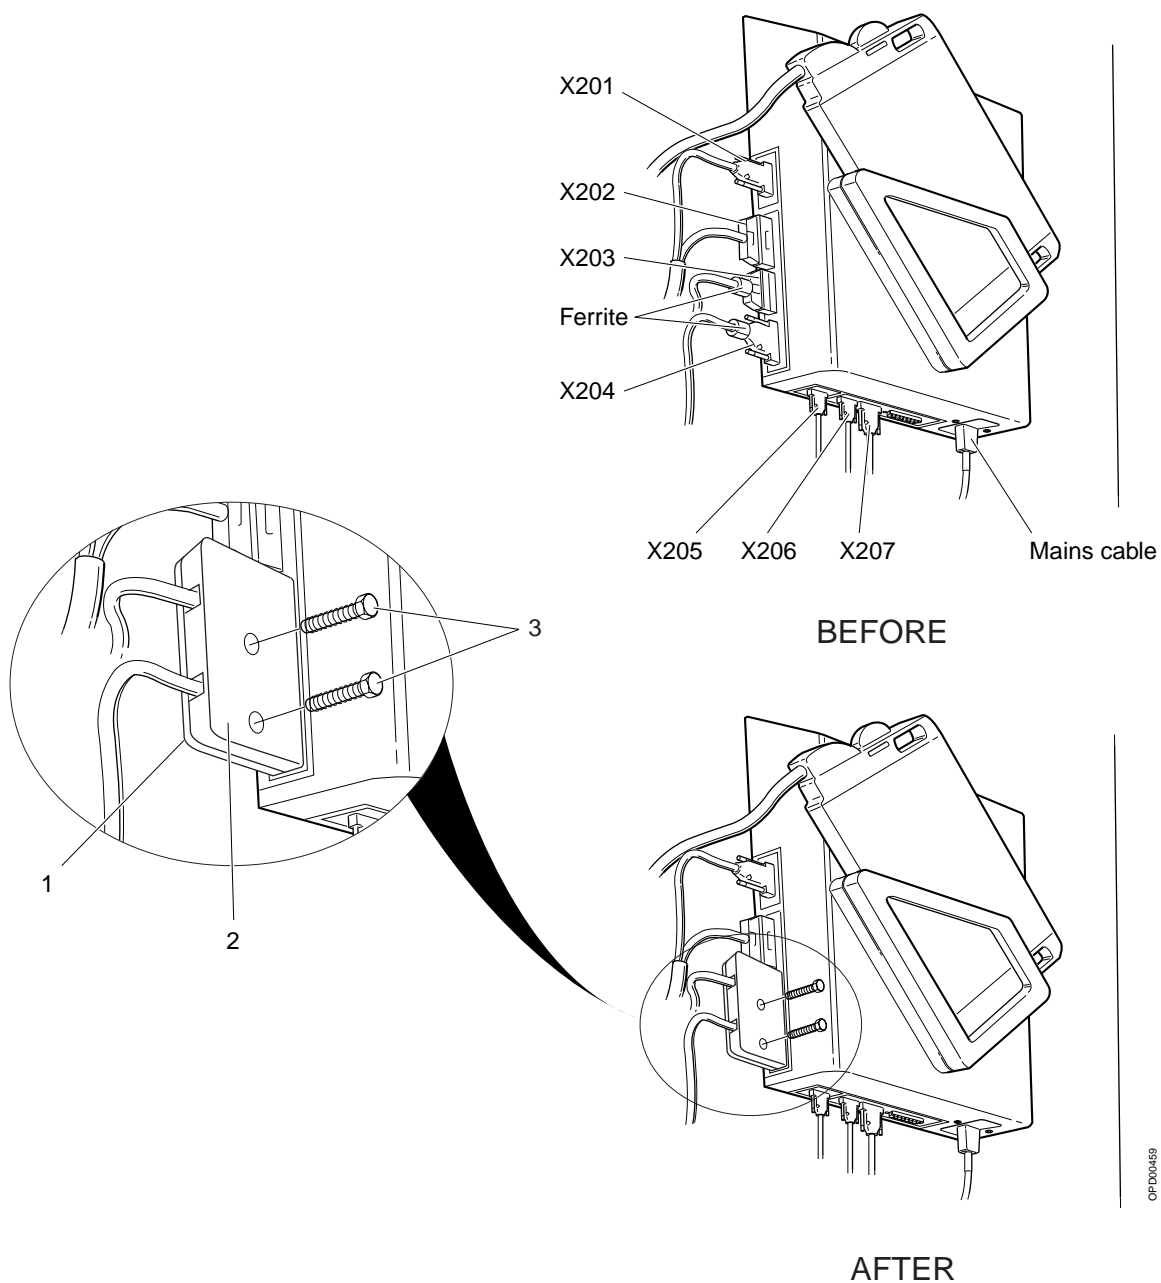

Fig. 1 Touch protection assembly
1. Place the plastic plate (see pos. 1, Fig. 1) behind the connectors X203 and X204.
2. Place the plastic cover (see pos. 2, Fig. 1) on the other side of the connectors.
3. Attach the plastic screws (see pos. 3, Fig. 1).